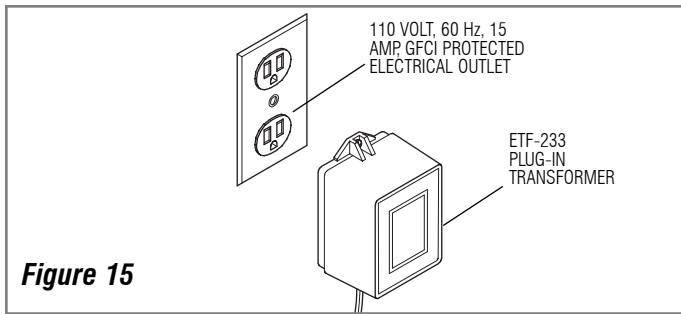

Figure 15
Step 10 — Plug Transformer into Receptacle (Figure 15)